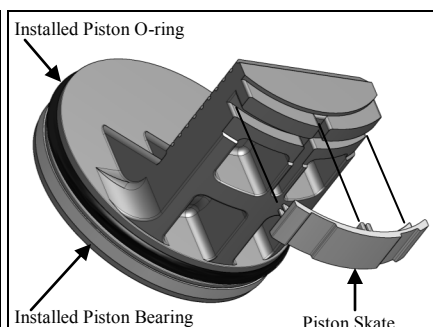

Fig. 9.2
- b. Pistons: On each piston install the bearing, o-ring, and skate. (Fig. 9.2)